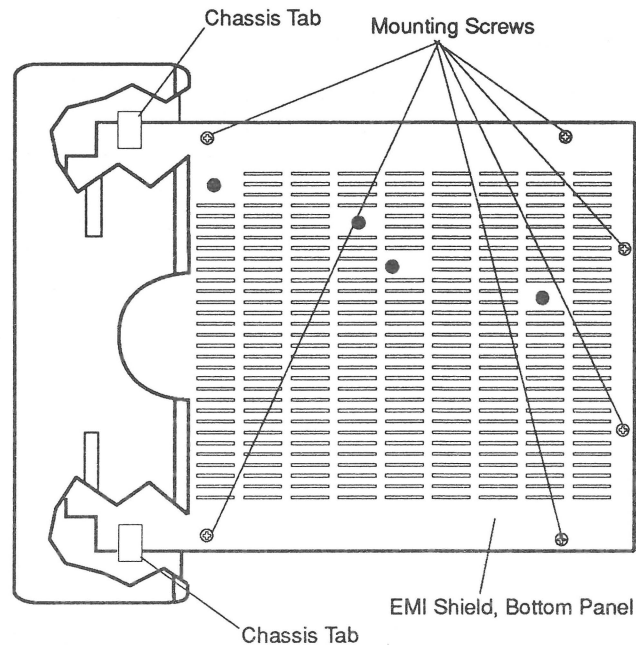

FIGURE 3
6. Remove the six screws that secure the bottom panel of the EMI shield to the chassis (**Figure 3**). Pull the bottom panel off the chassis.
2. Push the notched end of the bottom panel under the two chassis tabs as shown in **Figure 3**. Then align the holes in the bottom panel and the chassis, and install the six mounting screws.